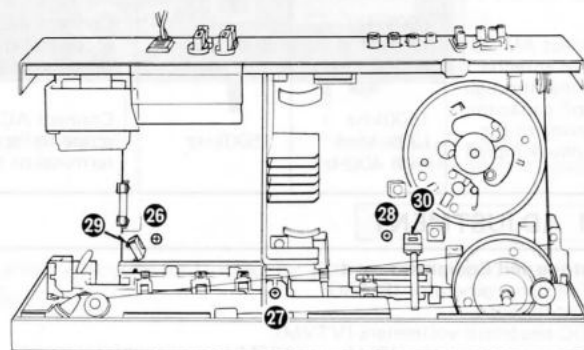

Fig. 6
5. Remove the 3 setscrews (Fig. 6 : **26 ~ 28**) and 2 connectors (Fig. 6 : **29, 30**)